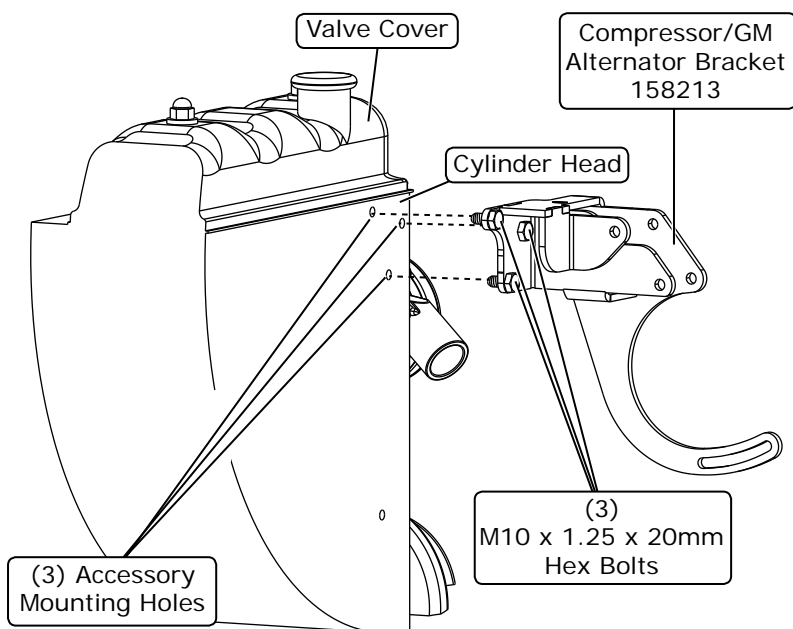

Figure 1
1. Using an M10 x 1.25 metric tap, clean the (3) accessory mounting holes on the passenger side cylinder head to clear away any debris (See Photo 2, below).
2. Install the compressor/GM alternator bracket onto the cylinder head using (3) M10 x 1.25 x 20mm hex bolts as shown in Figure 1, below. **NOTE: The installed bracket is shown in Photo 3, below.**